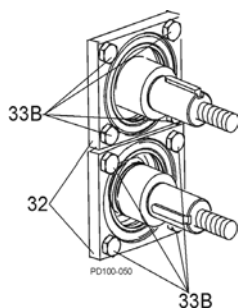

Figure 40 - Remove Bearing Retainers
2. Remove the front bearing retainer screws (Figure 40, item 33B) and pull off the bearing retainers (item 32). (If a retainer is stuck, leave it in place; it will press out when the shaft is removed.)